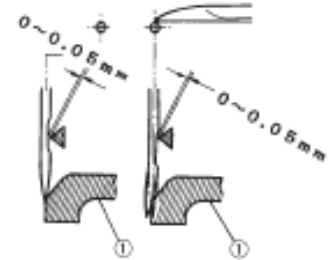

Fig. 13
B. When the looper point comes to the right needle centerline from right most position: The clearance between the right needle and the looper point is 0 - .05mm. To adjust, loosen screw (item 3) and move needle guard (rear) (item 1) back or forth (see Fig. 13).